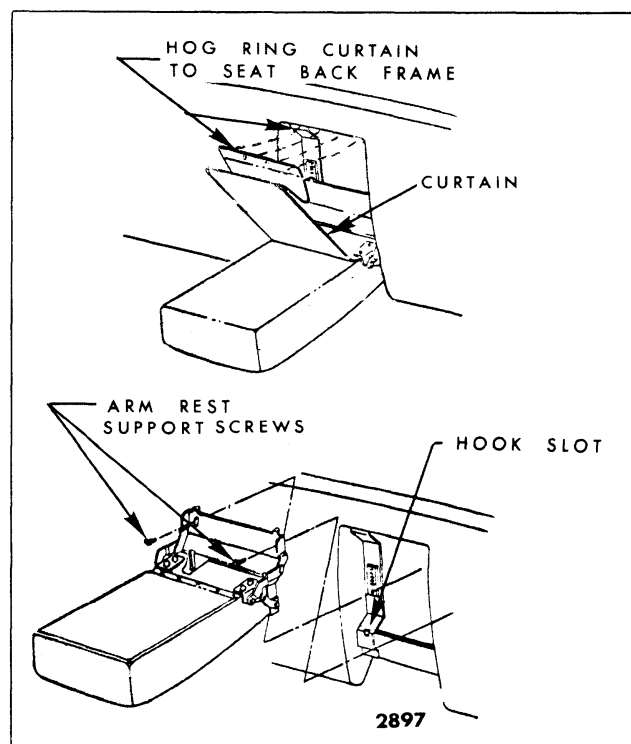

Fig. 9-48-Front Seat Back Center Arm Rest
2. At top of arm rest curtain, remove hog rings securing curtain to flange of support plate and pull curtain forward to expose screws securing arm rest to support linkage (Fig. 9-48).
3. Remove arm rest-to-support linkage screws and remove arm rest and curtain from seat (Fig. 9-48).
2. At top of arm rest curtain, remove hog rings securing curtain to flange of support plate (Fig. 9-48).
3. Remove two screws securing arm rest to supports on seat back (Fig. 9-48); then, carefully lift arm rest and linkage upward to disengage hooks of arm rest from slots in supports and remove assembly from seat.